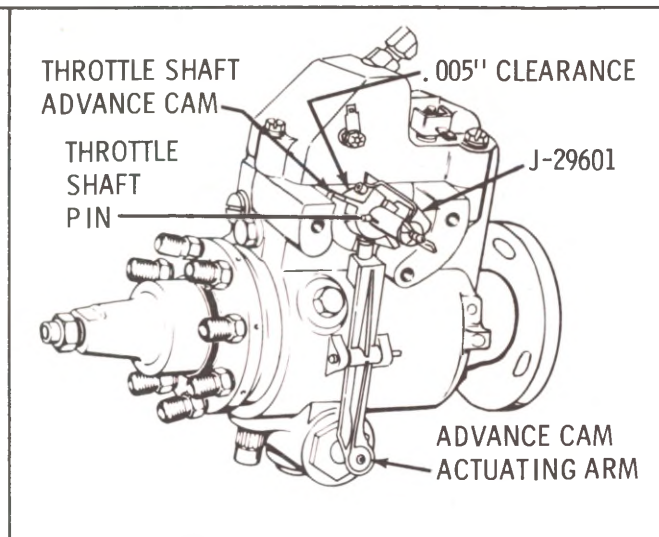

Fig. 3-11 Face Cam Tool, J-29601
9(A.) On all models with external advance lever, install the tool J29601 on the throttle shaft, tighten the thumb screw, and remove the tool and the vacuum switch drive pin (Figure 3-11).
17. Install the min/max governor assembly. Figure 3-11.